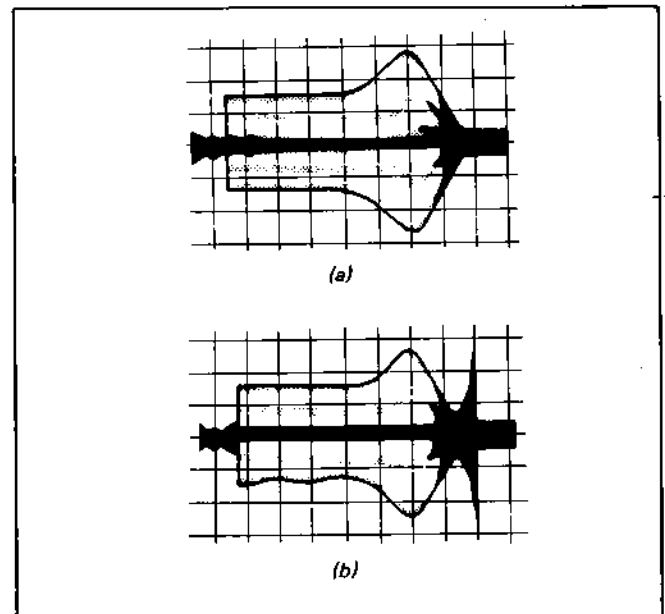

Fig. 4-8.
- 4) At this time, confirm that the exit free waveform is within the range shown in Fig. 4-8 (a) and (b).